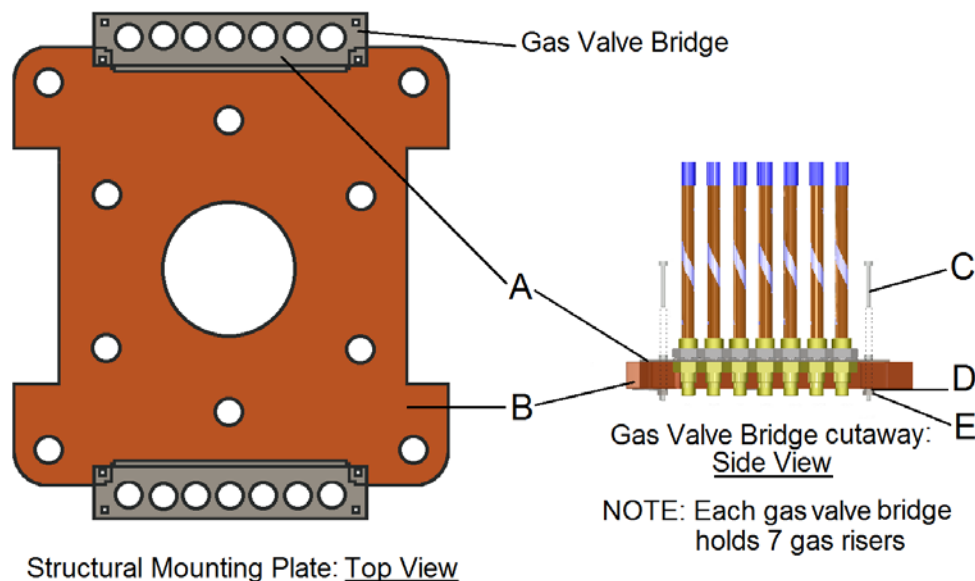

Figure 6-1: Medical Gas Riser Connection to TELETOM[®] Mounting Plate
- If two bridges are required, they must be mounted directly opposite each other on the single mounting plate as seen in Figure 6-1, as determined by the mating holes. When only one bridge is needed, it can be mounted on either side.